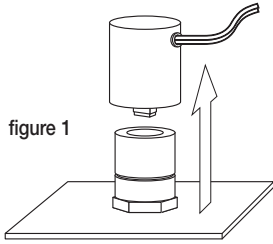

figure 1
1. Locate canister number 4 (shown on previous page). With the **plastic cover** removed, remove the threaded **retainer** on the top of the ultraviolet (UV) canister. (See figure 1 & 2).
On canister #4, pull up on plug cap (see page 9 - figure 1) until lamp is exposed. Unplug lamp, from plug cap. Remove old lamp from chamber and insert new lamp with connectors pointing up. Plug lamp into plug cap and place cap back over top.